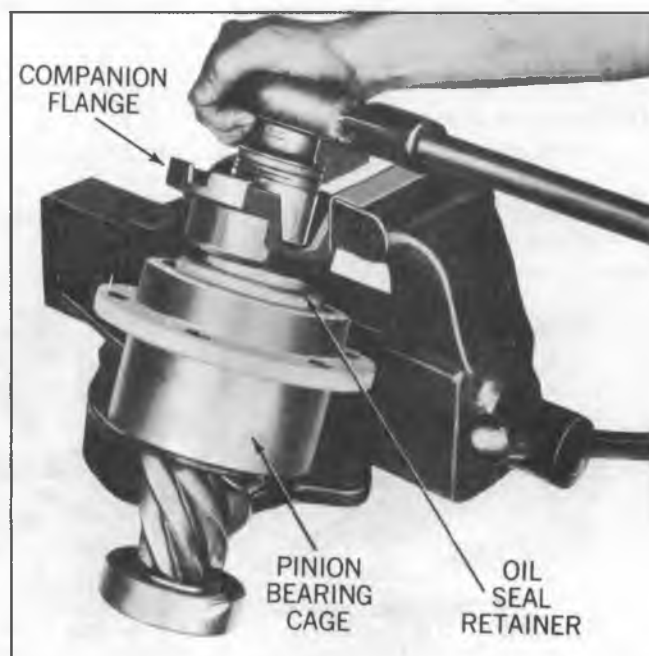

Fig. 6L—Removal and Installation of Companion Flange
1. Place companion flange in vise, remove cotter pin, nut and washer (66 and 65) from pinion (fig. 6L).
2. Place assembly in arbor press with cage on bed of arbor. Press pinion (28) downward and out of cage. Remove companion flange (64).
3. Remove bearing adjusting spacer (50) from pinion and tag for reassembling reference.
4. Press oil seal and retainer assembly (63) from pinion cage (54).
5. Remove pinion outer bearing cone (59) from cage assembly.
1. Press straight roller (48) onto pinion (28), then stake end of pinion using a round nosed punch.
2. Press pinion inner tapered bearing cone (49) onto pinion (28) with wide portion of cone toward pinion teeth, until seated against shoulder. Use Tool J-3493 and space bearing from tool with a discarded pinion bearing spacer.
3. Press tapered roller bearing cups (52) and (58) into cage until seated tightly against shoulders in case. Installer Tool J-22377 (18,500 lb. axle) or J-21106 (23,000 lb. axle) may be used for this purpose.
4. Install pinion and bearing assembly in pinion cage. Install same bearing adjusting spacer (50) and spacer washer if required (51) as removed at disassembly. Press outer bearing cone (59) on pinion.
5. Place companion flange washer (60) on bearing cone (59).
6. Install oil seal assembly (62) into retainer (63) and apply strip sealer onto seal retainer.
7. Press seal retainer into pinion bearing cage (54).
8. Press pinion flange (64) on pinion. Install washer (65) and nut (66). Tighten nut (fig. 6L) to torque listed in "Specifications."